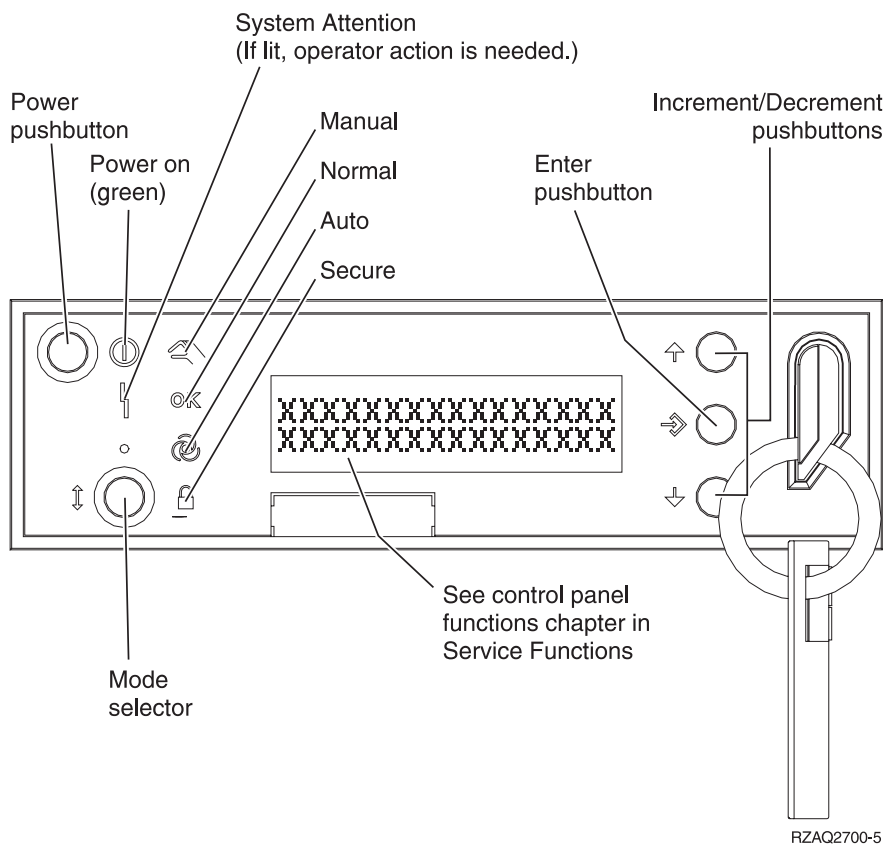

Figure 6. System Unit Control Panel layout
2. For SRCs appearing on the control panel, the first 4 characters represent the SRC type and the second 4 characters represent the URC. For SRCs appearing in the Product Activity Log or on other software displays, use characters 1 through 4 of word 1 for the SRC type and characters 5 through 8 of word 1 for the URC. See Figure 6 for the Control Panel layout.